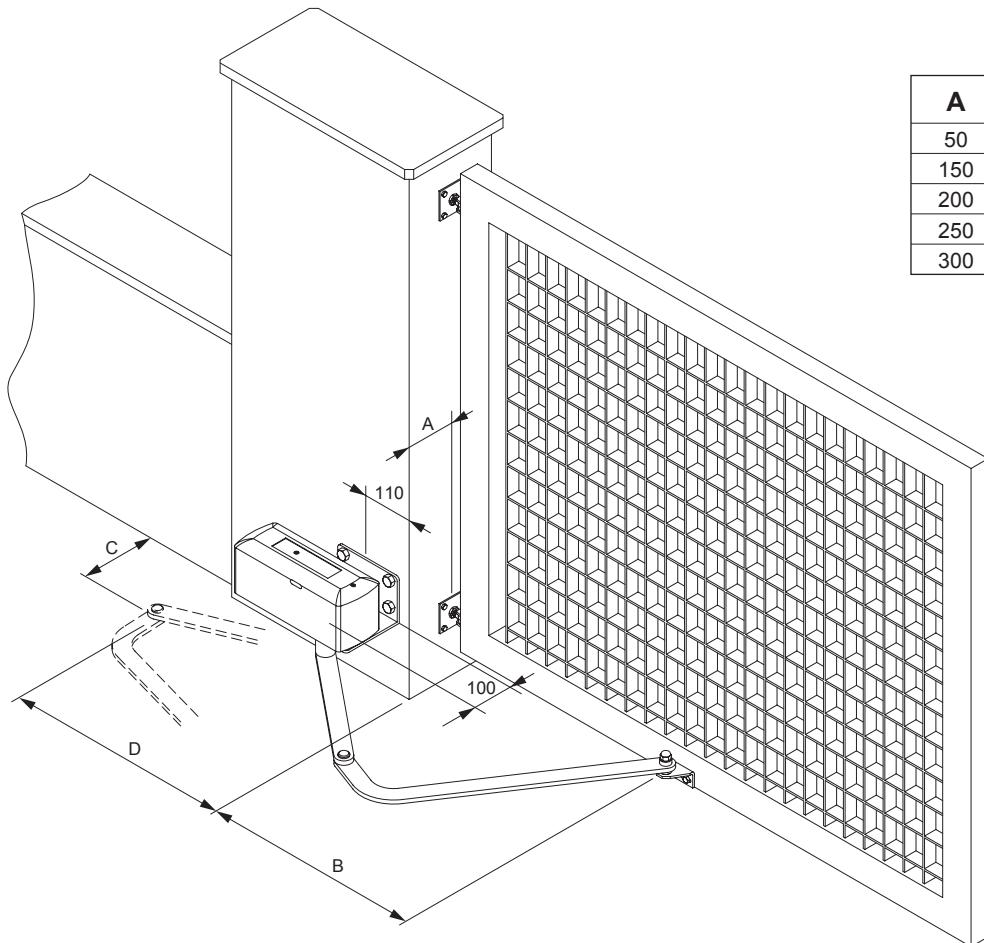

Fig.6
6.1 Application suitable to max 90° opening inward (fig. 6).